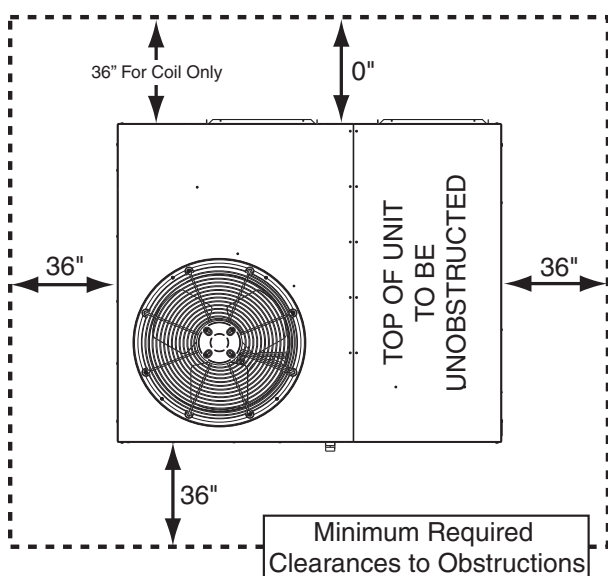

Figure 2. Clearance Requirements
- Sufficient clearance for unobstructed airflow through the outdoor coil must be maintained in order to achieve rated performance. See Figure 2 for minimum clearances to obstructions.
P6SD units are certified as cooling equipment for outdoor installation only. Figure 2 (page 6) displays the minimum clearances to obstructions for both Downflow and Horizontal discharge.
- Clearances must be in accordance with those shown in Figure 2.